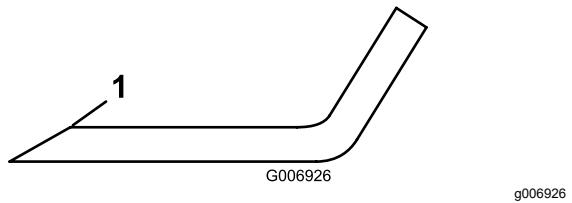

Figure 102
5. Inspect the cutting edges of all blades. Sharpen the cutting edges if they are dull or nicked. Sharpen only the top of the cutting edge and maintain the original cutting angle to make sure that it is sharp (Figure 102).
- If dull or nicked, sharpen only the top cutting edge while maintaining the original cutting angle (Figure 102).